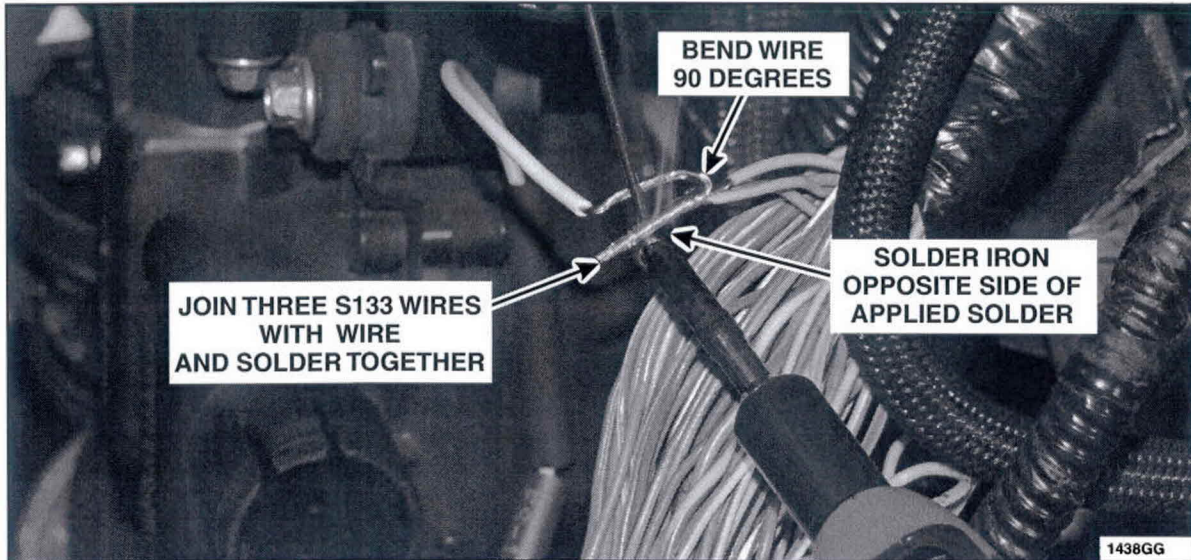

FIGURE 9
13. Join the three Yellow/Violet wires on the engine side of the harness with one end of the previously prepared 40.6 cm (16 in) length of wire. Twist 13 mm (0.5 in.) of the ends of the wires together and bend the splice wire 90 degrees to the harness wire at the end of the twisted area. Solder the wires together using lead free electrical solder, with the heat being applied opposite of the applied solder. See Figures 9 and 10.